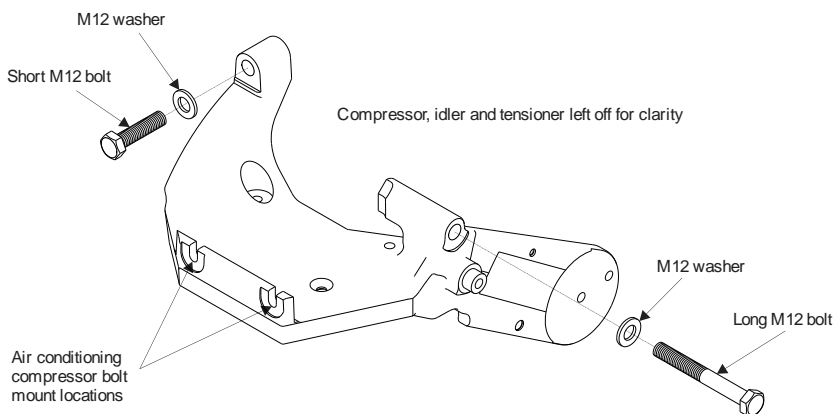

Figure 3.3
- ☐ Insert the short M12 bolt through the rear mount. Place the bracket in position on the engine so that you can see how it will mount once the compressor has been attached (Figure 3.3). Angle the front of the bracket up during installation to hook the front stud over the oil pan on the front of the engine.